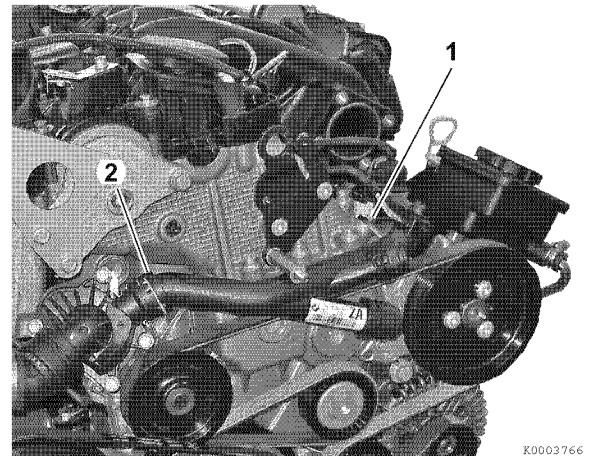

Figure 8-12
4. Remove coolant pipe retaining bolt (1, **Figure 8-12**).
5. Disconnect coolant pipe (2, **Figure 8-12**) from thermostat housing.